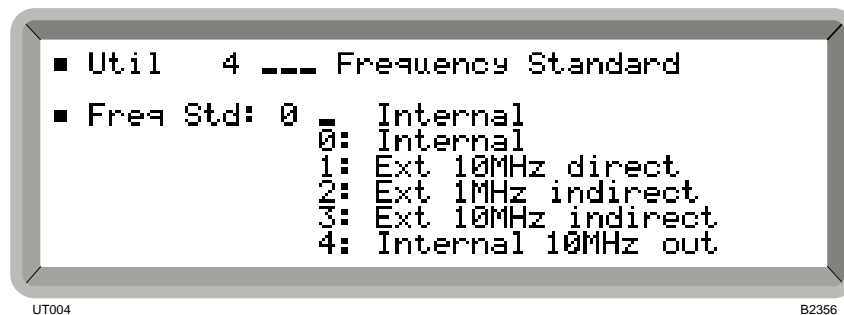

Fig. 4-30 Frequency standard menu
- (1) Select the *Util 4: Frequency Standard* menu shown in Fig. 4-30.